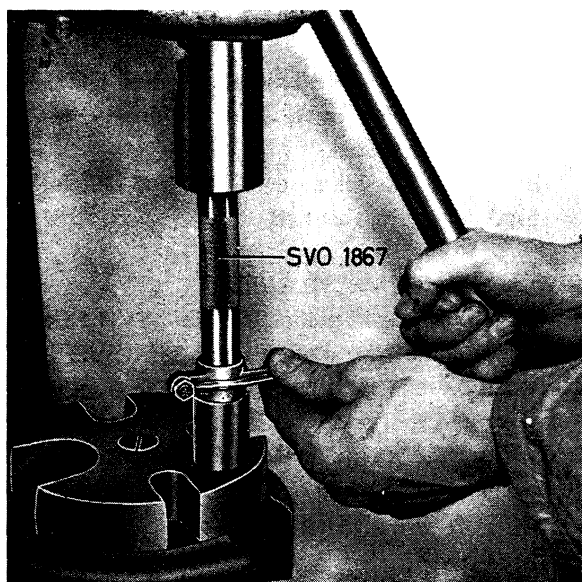

Fig. 2-23. Replacing bush in rocker arm
1. If wear amounts to 0.1 mm (0.004"), replace the rocker arm bush. Use tool SVO 1867 for pressing the bush out and in, see Fig. 2-23. Then ream the bush to an accurate fit on the shaft using a suitable reamer. The hole in the bush should coincide with the hole in the rocker arm.